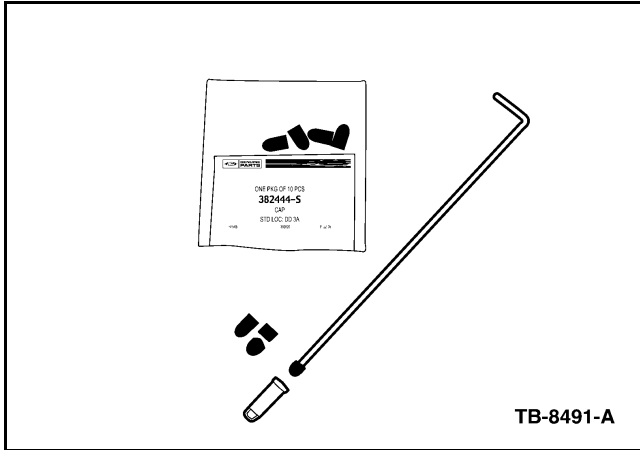

Figure 4 - Article 08-1-9
2. Install the modified cap with a long drill bit or suitable wire, sized for the internal diameter of the cap. The rubber cap should bottom-out on the electrode strap of the ground electrode shield once installed. (Figure 4)